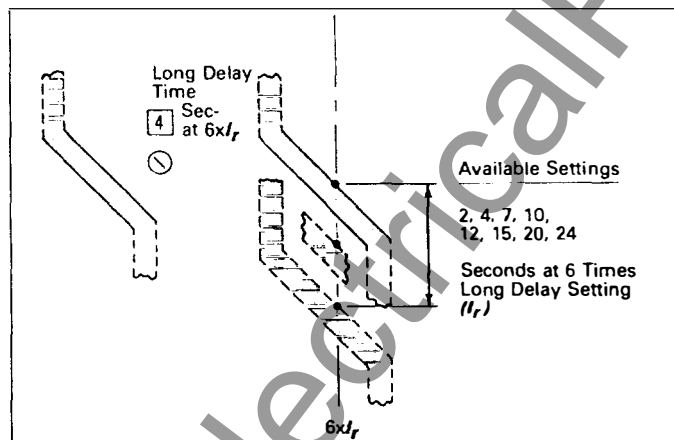

Fig. 4.2 Long Delay Time Settings
There are eight (8) available Long Delay Time Settings, as illustrated in Fig. 4.2, ranging from 2 to 24 seconds. These settings are the total clearing times when the current value equals six (6) times  $I_r$ .